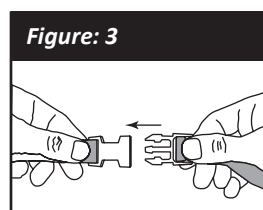

Figure: 3
1. Place your child in the swing, then place the safety belt over your child's lap and snap the connectors together. (See Figure: 3)